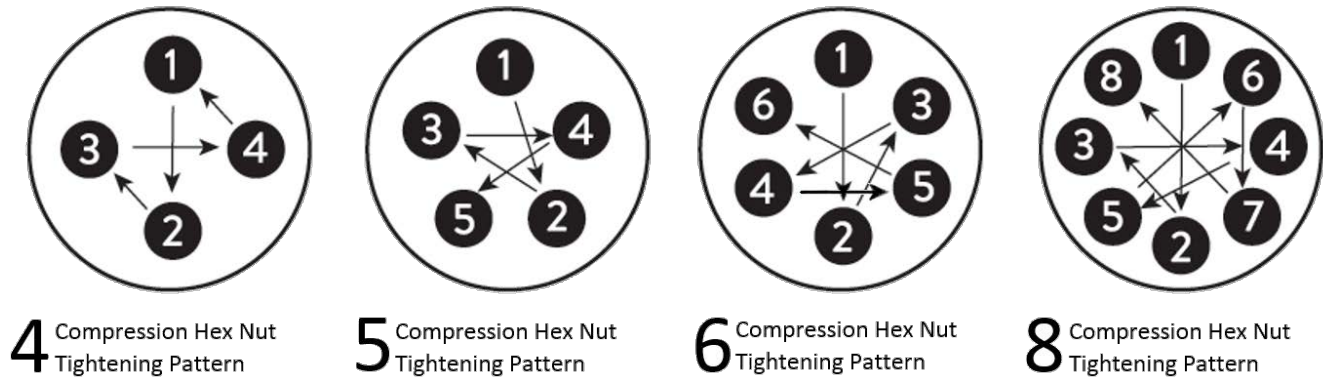

Figure 15: Compression Hex Nut Tightening Pattern Examples
- Using a star pattern shown in Figure 15, turn each **Compression Hex Nuts(19)** a maximum of 3 full revolutions before moving to the next nut. Repeat until 50% target torque is achieved on all nuts, then increase to 100% target installation torque and continue torqueing in a star pattern. After completing the star pattern at 100% of the target torque, use a circular pattern to confirm all nuts are torqued correctly.